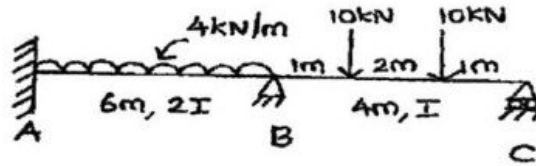

Fig. Q12 (a)
12. (a) Analyse the continuous beam ABC shown in Fig. Q12(a) by slope deflection method, if the support B sinks by 15 mm. Draw the bending moment diagram. Assume  $E = 200 \times 10^6 \text{ kN/m}^2$  and  $I = 70 \times 10^6 \text{ mm}^4$ .